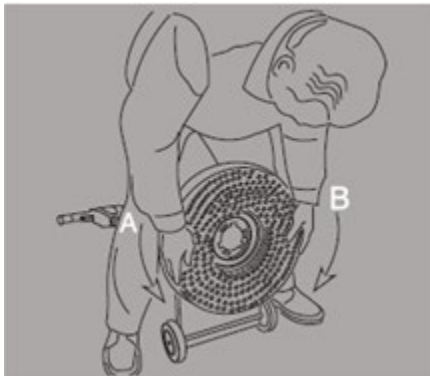

Figure 2
- 2, Tilt the machine backward until the handle touches the floor, see Figure 2,
- 3, Put your feet on each side of the machine, see Figure 2,
- 5, To lock the brush pad into position, turn the brush or pad driver as indicated in Figure 2(A),
- 6, To unlock and remove the brush, turn the brush or pad driver as indicated in Figure 2(B).